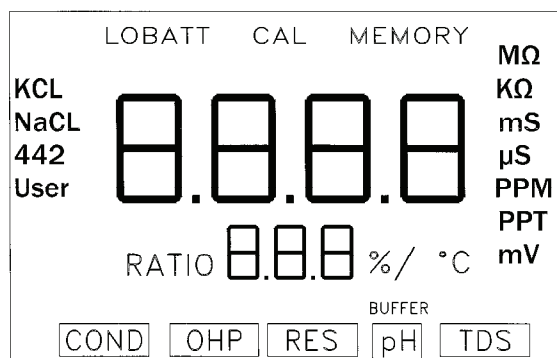

Figure 4. Conductivity Meter Liquid Crystal Display.
1. TDS require mathematical correction to 77°F (25°C) values. On the left of the instrument's Liquid Crystal Display (LCD) is an indicator of the salt solution characteristic used to model temperature compensation of conductivity and its TDS conversion. See Figure 4.